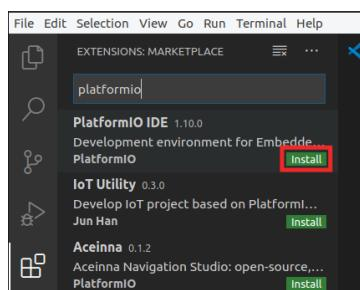

Figure 3. PlatformIO IDE Extension
- d. Type *PlatformIO* in the search box and install the PlatformIO IDE by clicking on the install button next to it (see Figure 3).